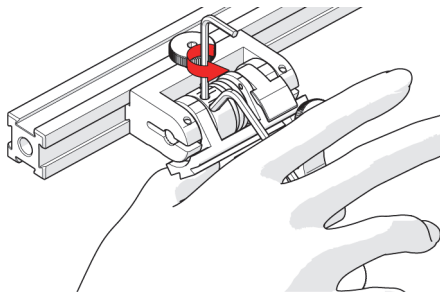

Figure 2-37 Press 3mm hex wrench down
5. Lightly press the long arm of the 3 mm hex wrench down. Using the 2 mm hex wrench, loosen the force adjustment screw but do not remove it (see Figure 2-37 on page 62).